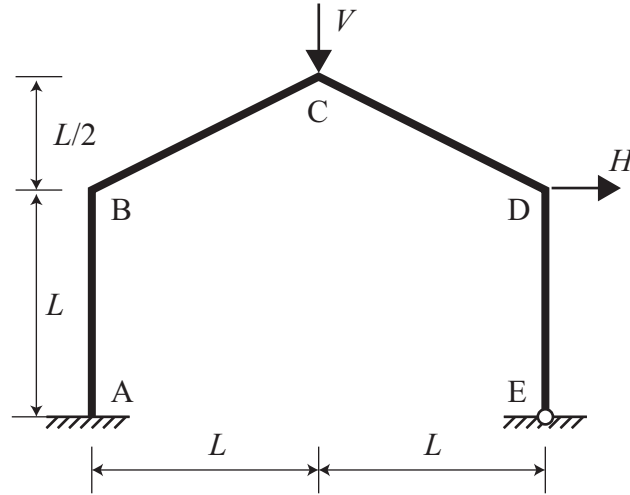

Figure 10
- * 10. Draw an Interaction Diagram showing the collapse load of the 2-D structure shown in Figure 10 (overleaf) for any positive values of V and H , and calculate the collapse load if $V = H$. The fully plastic moment is M_p throughout. Joint A is fully clamped; B , C and D are full-strength connections; E is pinned.